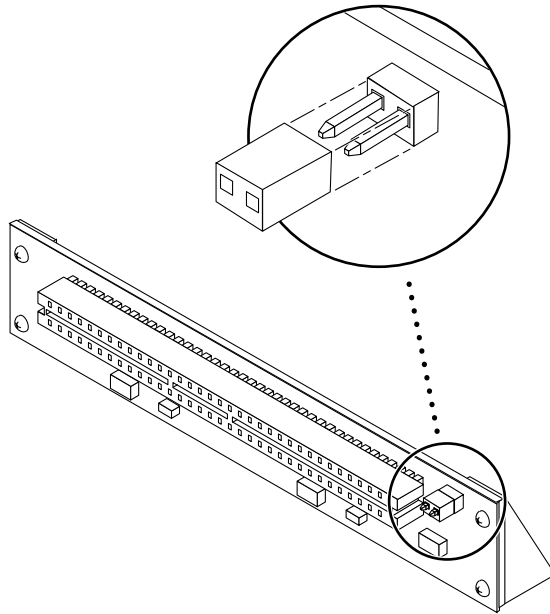

FIGURE 4-22 JTAG Test Jumper
2. Verify that the JTAG test jumper is removed/disabled (FIGURE 4-22).